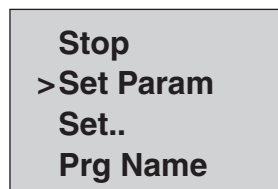
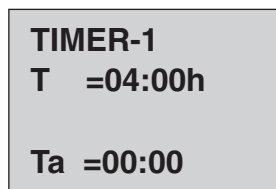

Fig. 3
Fig. 4
3. Using the up/down arrow key ▲ or ▼, move the (>) cursor to 'Set Param' and press OK to confirm (See figure 3). The display window shows the first parameter (Timer-1), see figure 4.